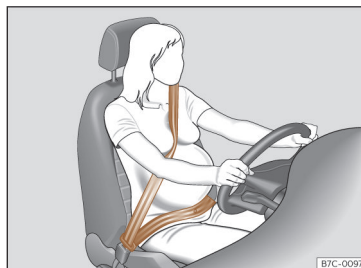

Fig. 26 Position of seat belt during pregnancy.
In the case of **pregnant women**, the seat belt should pass uniformly over the chest and as low as possible over the pelvic area with the strap flat so it does not press down on the abdomen; in addition, it must be used throughout the entire pregnancy >>> **Fig. 26**.
- In the case of pregnant women, the abdominal strap of the seat belt should pass as low as possible across the pelvic area, resting flat and “surrounding” the abdomen >>> Fig. 26.